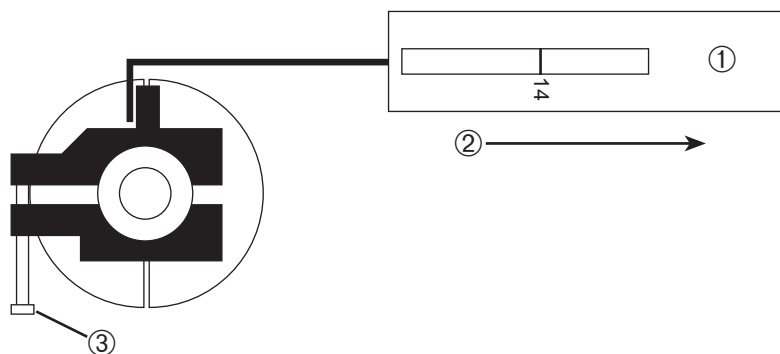

Figure 5-3 Using the force gauge.
1. Loosen the six (6) screws that secure the top cover of the take-up cassette. Remove the cassette top cover.
2. Remove the two (2) screws securing the bearing retainers on each end of the cassette core. Remove the bearing retainers and lift out the cassette core.
3. While holding the cassette core in the orientation shown in Figure 5-3, use a force gauge (in/oz) to check the break away force of the clutch.
- a. Slowly pull the force gauge in the direction shown in Figure 5-3. The clutch should slip at approximately 1-1.5 lbs.